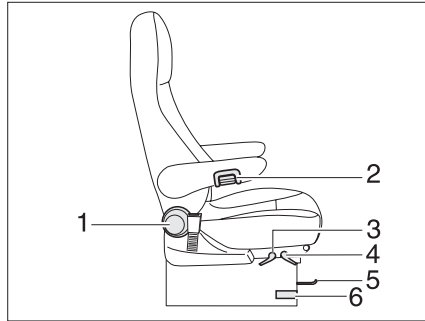

Fig. 10 Driver's seat and front passenger's seat
- Turn the seat in the direction of travel and lock it with the locking lever (Fig. 10,6).
- Turn the knurled wheel (Fig. 10,2) in an anticlockwise direction (when viewed from the front). The latch of the armrest is released by this.
- Pull the bar (Fig. 10,5). The seat can be moved forward or backward.
- Turn the knurled knob (Fig. 10,1). The backrest will be unlocked and can be adjusted.
- Pull the lever (Fig. 10,4) upwards. The inclination of the seat and backrest can be set.
- Pull the lever (Fig. 10,3) upwards.